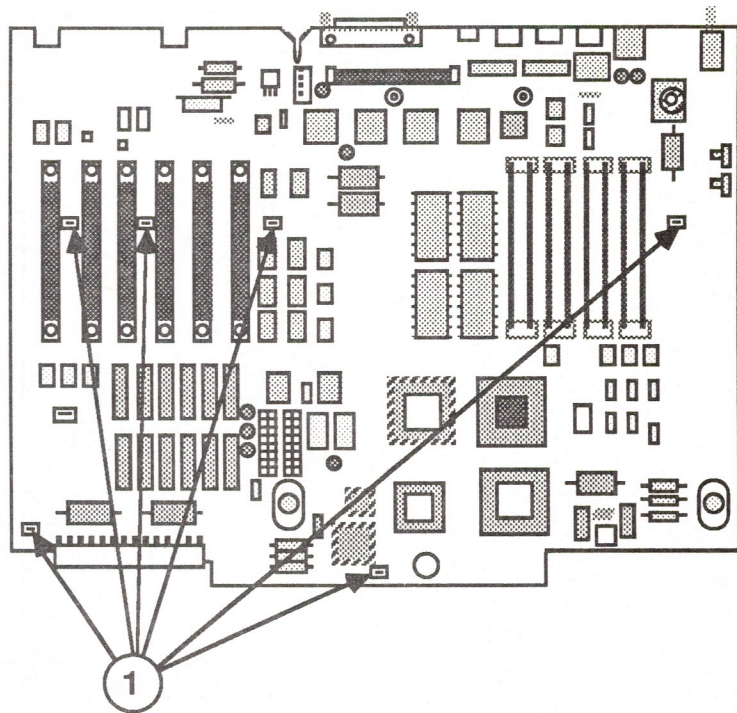

FIGURE 13
4. Starting at the front of the logic board, gently lift up the board as you push each of the six tabs, one at a time (Figure 13, #1).
2. Gently lower the board into the case and press it onto the tabs (Figure 13, #1).